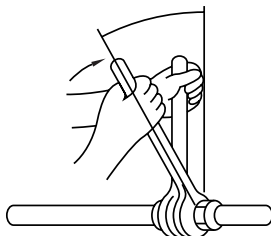

Fig. 5-8
5.3. Pipe connection (Fig.5-8)